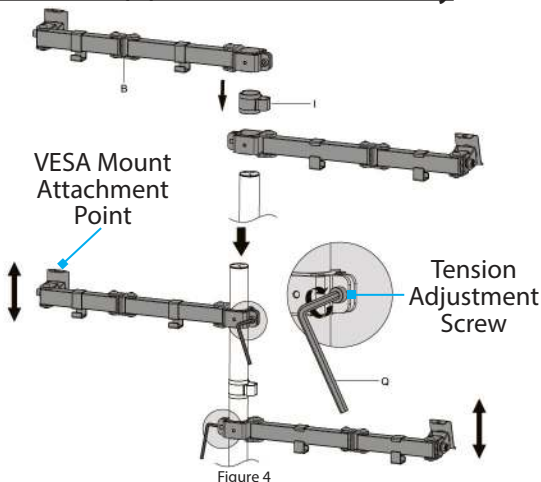

Figure 4
1. Slide one **Arm (B)** onto the **Pole Assembly**, ensuring the hole in the **VESA Mount Attachment Point** is oriented towards the top. (Figure 4)
2. Slide the **Cable Management Clip (I)** onto the **Pole Assembly**.
3. Slide the second **Arm (B)** onto the **Pole Assembly**, ensuring the hole in the **VESA Mount Attachment Point** is oriented towards the top.
4. Adjust the height of the **Arms (B)** to the desired mounting heights for the **Laptop** and **Display** and tighten the **Tension Adjustment Screws**, using the **6 mm Hex Key (Q)**.